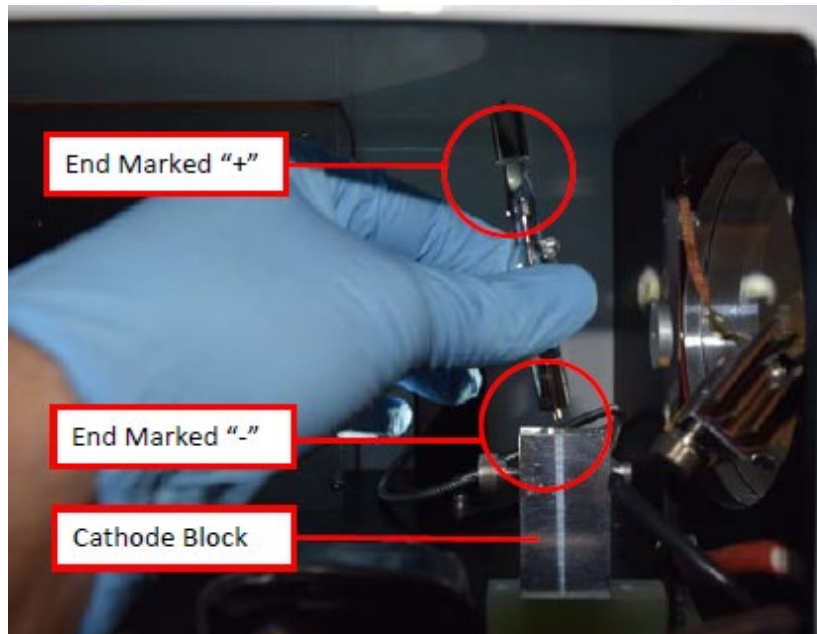

Figure 12. Inserting the Xenon UV Source into the Cathode block.
1. Insert the Cathode (-) end of the Xenon UV Source into the Cathode Block (see **Figure 12**). The Cathode end of the UV Source is marked with (-).